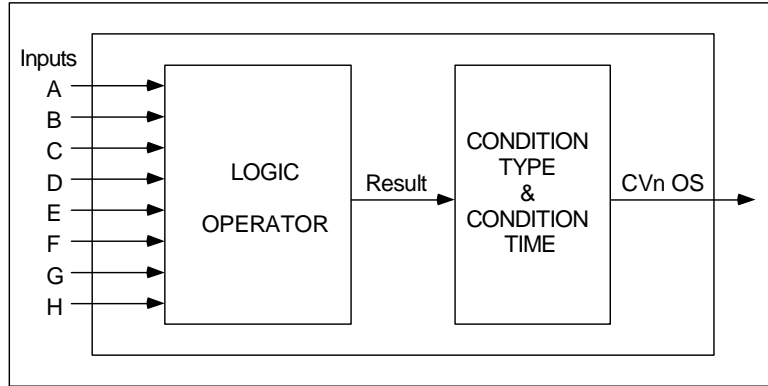

Figure 4-5 Logic Signal Flow
The input or inputs are processed by a logic operator. Call the result of this logic operation “Result”. Result is a pulse that goes ON(1) when the logic is true, and OFF(0) when the logic is not true. Result is then processed according to the specified condition type and condition time. The final output is a discrete pulse CVn OS. See Figure 4-5.